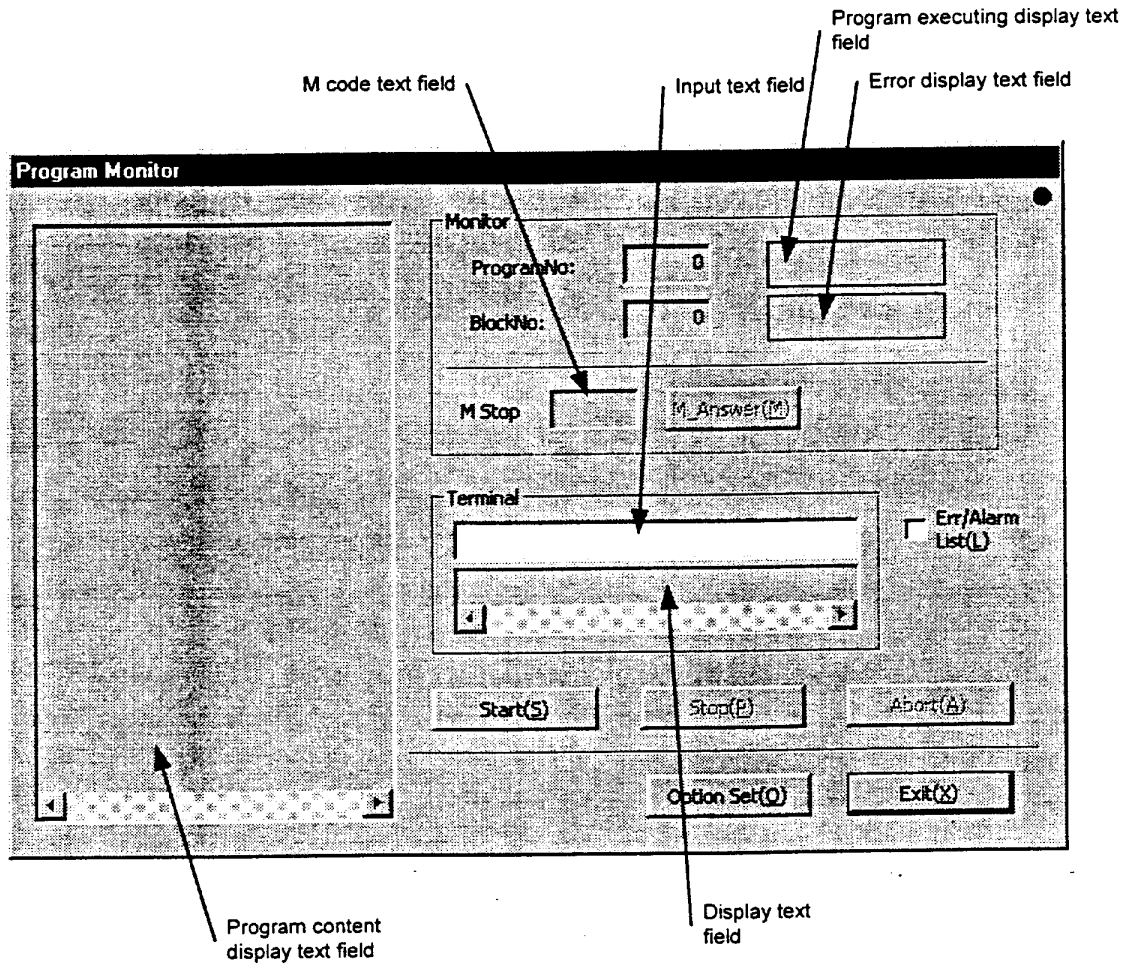

Figure 7.36 "Program Monitor" dialog box.
- 3) Click "OK" to make the setting status valid and return to the "Program Monitor" dialog box. If you click "Cancel," the PC utility returns to the "Program Monitor" dialog box without making the setting status valid (see Figure 7.36).